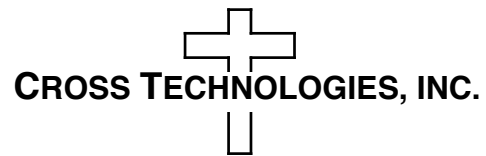

**FIGURE 2.3 Fuse Location and Spare Fuse**
8. AC Fuse - The fuse is a 5 mm X 20 mm, 2 amp slow blow (Type T) and is inserted in the far slot in the drawer below the AC input as shown in Figure 2.3. There is a spare fuse in the near slot. If a fuse continues to open, the power supply is most likely defective.